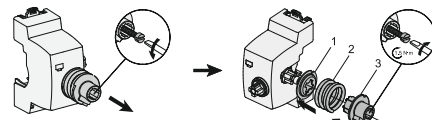

Рисунок 9 – Монтаж поворотной ручки на боковой по распределительного шкафа / Figure 9 – Mounting the handle on the side of the distribution cabinet
If you decide to mount the rotary handle on the side of the distribution cabinet, attach the metal rod fastening mechanism to the side of the operating module as shown in Figure 9. To do this, remove the screw (item 4 in figure 9) that secures the fastening mechanism and then mount it on the side surface in the following sequence:
- metal washer (item 1 in figure 9);
- compression spring (item 2 in figure 9);
- metal rod fastening mechanism (item 3 in figure 9).
Once assembled, tighten the screw (item 4 in figure 9) that secures the metal rod mounting to the operating module;
3) Insert the metal rod into the mounting hole of the operating module and secure it with the screw of metal rod, as shown in figure 9, using a hex wrench;